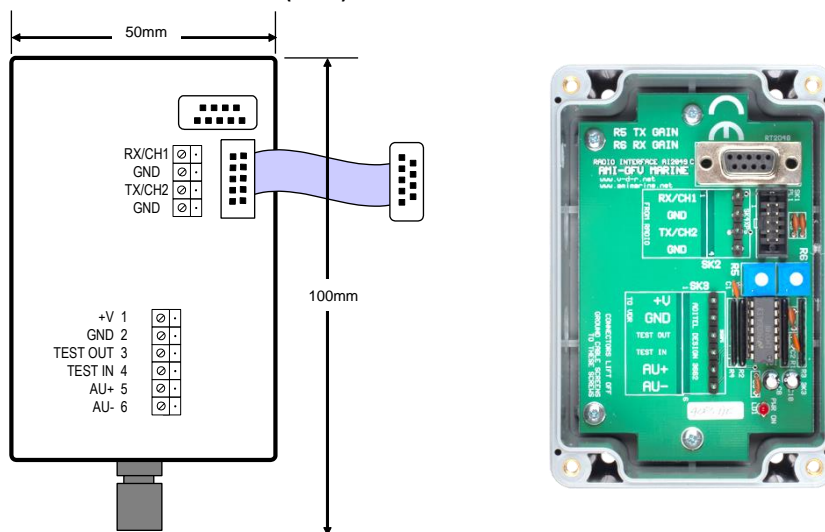
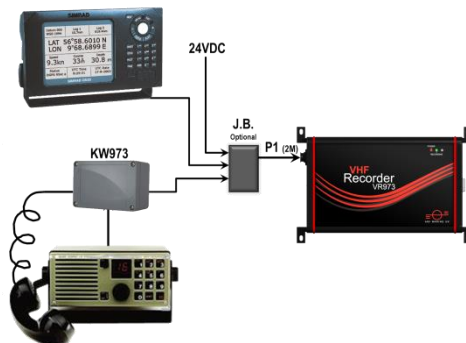

Figure 6.
Figure 8.
If the VHF unit has separate TX and RX channels this can be connected via AMI's KW973 VHF interface which will combine the 2 audio signals into 1 (see Figure 8). There is also the facility in the KW973 VHF interface to balance the volume levels (see Figure 6).
Turn the gain on both the TX and RX (see Figure 6). fully counter clockwise (CCW), adjust each gain level clockwise (CW) 25% of the full movement. Remove the USB drive and replay the recording. Adjust until a good clear audio is achieved.